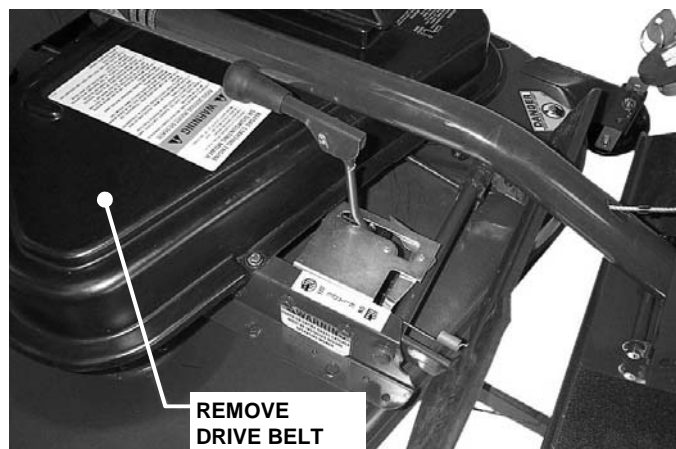

FIGURE 3.3
3. Slide cover back and rotate out on left side of mower deck. See Figure 3.3.